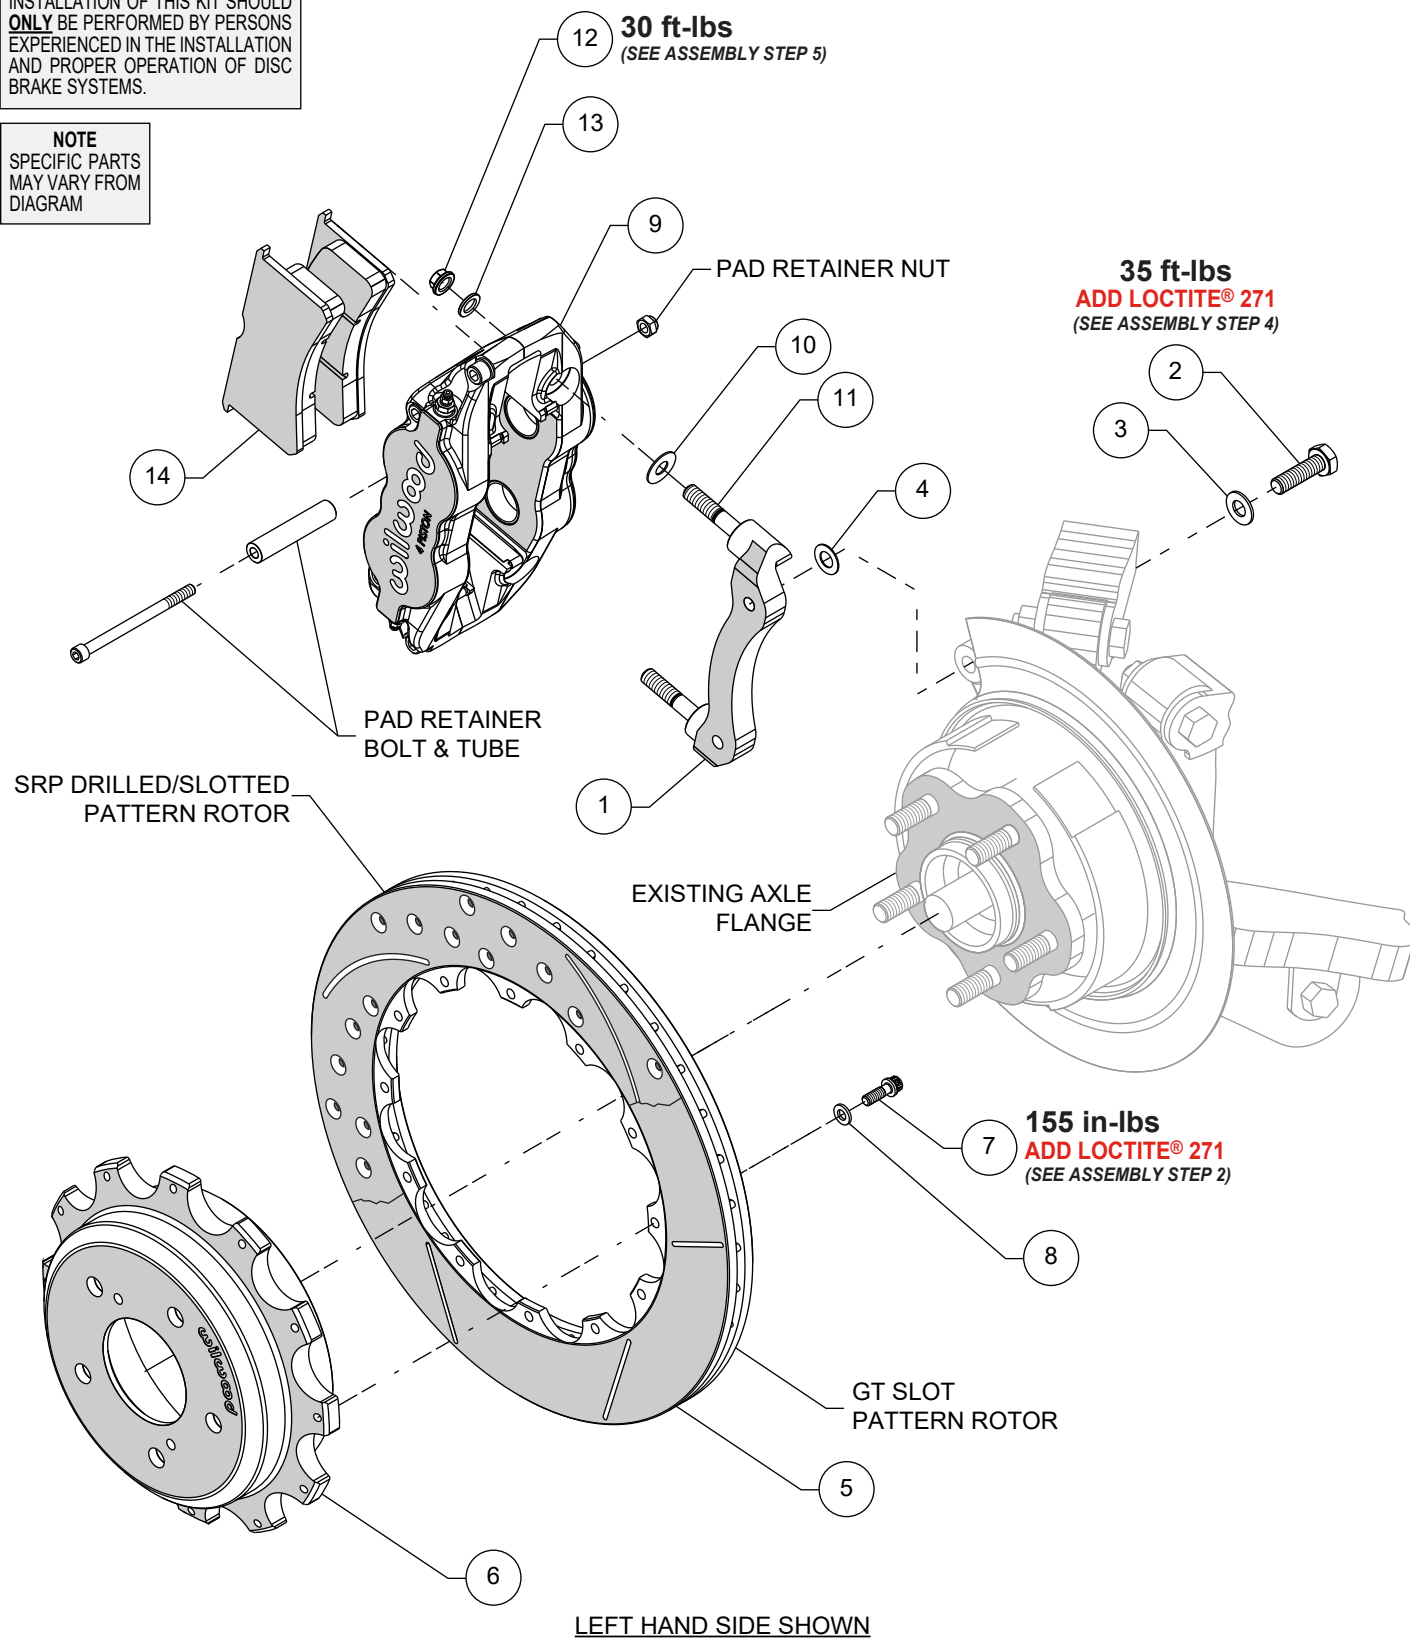
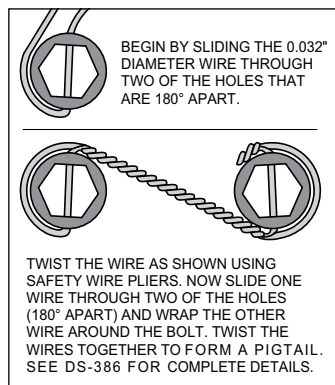

Figure 1. Typical Installation Configuration
Figure 3
Numbers in parenthesis refer to the parts list and Figure 1 on the preceding pages.
STEP 1 The caliper mount bracket (1) should initially be installed with clean, dry threads on the mounting bolts. Orient the bracket as shown in Figure 1 and Photo 1, and install using mount bolts (2) and washers (3). Initially place one .030" thick shim (4) on each bolt between the bracket and upright, Figure 1. Temporarily tighten the mounting bolts. **NOTE:** The bracket must fit squarely against the mount bosses on the upright. Inspect for interference from casting irregularities, machining ridges, burrs, etc. Later, after the caliper alignment has been checked, the mount bolts will be secured using red *Loctite*® 271.
STEP 2 Orient the rotor (5) and the hat (6) as shown in Figure 1 and Photo 2. Attach rotor to hat using bolts (7) and washers (8). Apply red *Loctite*® 271 to the bolt threads and torque to value shown in Figure 1 using a criss-cross pattern. For an added measure of security, the bolts may be safety wired using standard 0.032 inch diameter stainless steel safety wire as shown in Figure 3. Refer to Wilwood's data sheet DS-386 (available at www.wilwood.com/Pdf/DataSheets/ds386.pdf) for complete safety wire installation instructions.
STEP 3 Slide the rotor/hat assembly (5/6) onto the axle hub, Figure 1. **NOTE:** The hat must fit flush against the axle hub flange or excessive rotor run out may result. Install three lug nuts (finger tight) to keep the rotor/hat assembly in place while continuing with the installation.
STEP 4 Initially place one .035" thick shim (10) on each stud (11) as shown in Figure 1 and Photo 3. Mount the caliper (9) onto the bracket (1) using lock nuts (12) and washers (13), Figure 1. Temporarily tighten the lock nuts and view the rotor through the top opening of the caliper. The rotor should be centered in the caliper, Photo 4. If not, adjust by adding or subtracting shims (4) between the bracket and the mounting bosses. Always use the same amount of shims on each of the two mounting bolts. Once the caliper alignment is correct, remove the bracket mounting bolts (2) one at a time, apply red *Loctite*® 271 to the threads, and torque to value shown in Figure 1.
STEP 5 Remove the caliper pad retainer bolt, locknut, and tube from the caliper. Insert the brake pads (14) into the caliper, with the friction material facing the rotor, as shown in Photo 5. Check that the top of the brake pad is flush with the outside diameter of the rotor, Photo 6. If not, adjust by adding or subtracting shims (10) between the caliper and the bracket. After the caliper pad height is set, torque the caliper lock nuts (12) to value shown in Figure 1. Secure the brake pads in place with the pad retainer tube, bolt, and locknut.